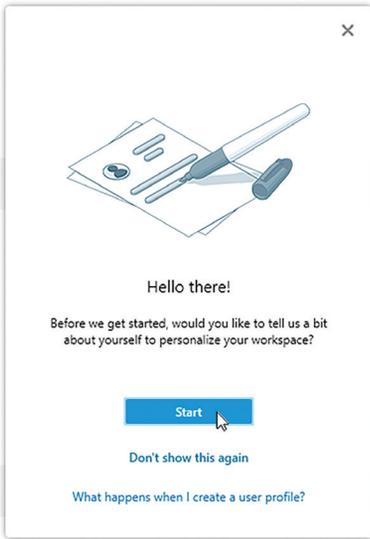

Figure 11
When a user first starts Revit 2021, they are presented with a dialog asking them to specify the type of work they do. Given that Revit supports multiple disciplines, the user interface (UI) often presents several ribbon tabs and tools not needed for their tasks. Thus, this wizard will turn portions of the UI off. There are no new settings, just a wizard that manages existing settings, which can manually be turned back on in the Options dialog at any time. See figure 11.